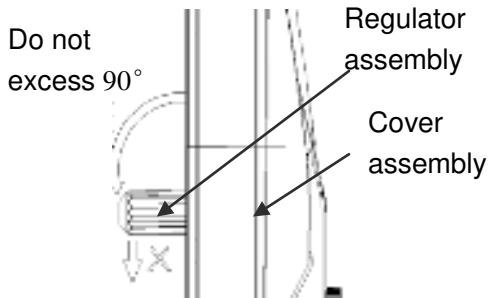
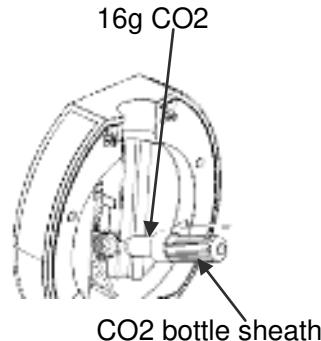
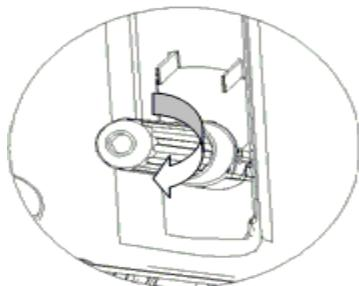

Figure 15
Figure 16
Figure 17
4. Loosen the CO2 bottle sheath (Show as figure 15), insert a 16gram CO2 cartridge in the sheath (Figure 16), and screw the sheath tightly until you will hear a “Click”(Figure 17), which indicates that the cartridge seal has been pierced and the CO2 gas can flow into the keg freely. Make us the bottle sheath is fixed tightly to avoid the CO2 leakage. Then put CO2 bottle sheath into the top cover.